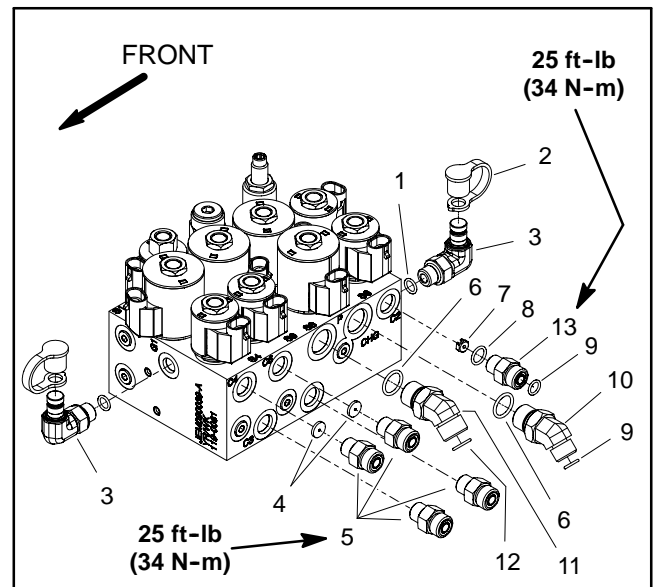

Figure 111
8. If hydraulic fittings are to be removed from control manifold, mark fitting orientation to allow correct assembly. Remove fittings from valve and discard O-rings (Fig. 111).
1. If fittings were removed from control manifold, lubricate and place new O-rings onto fittings. Correctly place orifice in port C2, C4 or C6 if removed. Install fittings into port openings using marks made during the removal process to properly orientate fittings (Fig. 111). Tighten fittings (see Hydraulic Fitting Installation in the General Information section of this chapter).